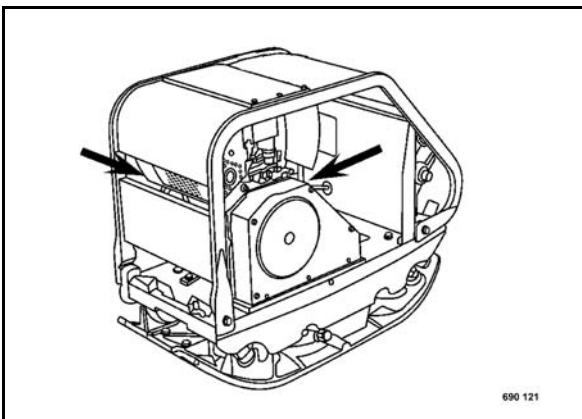

Fig. 35
- Do not guide the water jet directly into the cooling air openings of the recoil starter, into the dry air filter and on electrical equipment (Fig. 35).